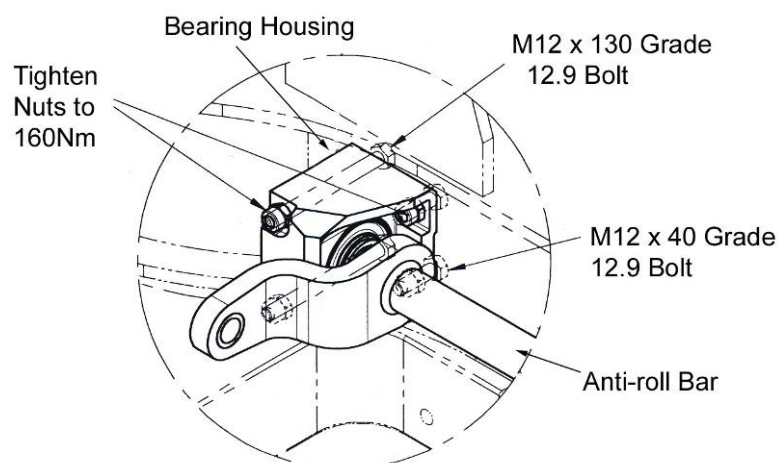

Figure 1.4: Assembly of Improved Anti-roll Bar Bearing Housings
- 1.9.3 Fit bearing housings, complete with anti-roll bar, onto captive M12 bolts in bolster side plate and secure with new M12 bent beam nuts (Cat No. 003/180156). Tighten to 160Nm. (See Figure 1.4).